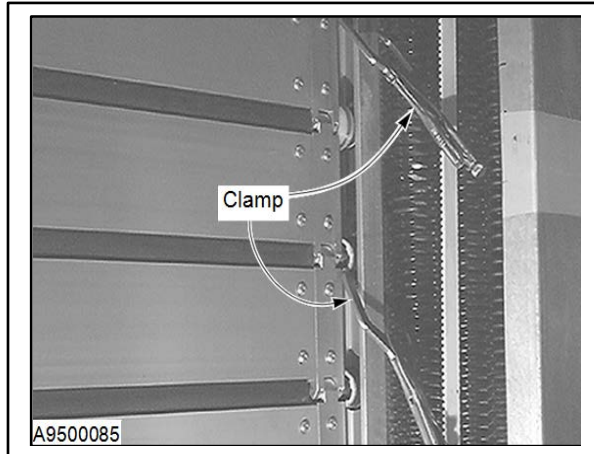

Figure 58
4. Place clamps across the exposed door track to secure the door and prevent it from accidentally falling once belt tension is released. (See Figure 58.)